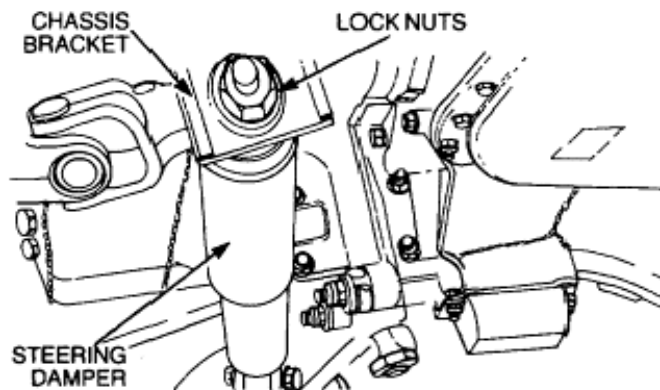

Figure 137 Steering Damper to Chassis Bracket Removal
- a. Remove the two nuts securing the steering damper to the chassis bracket and remove the rubber bushes and cup washers (Figure 137).